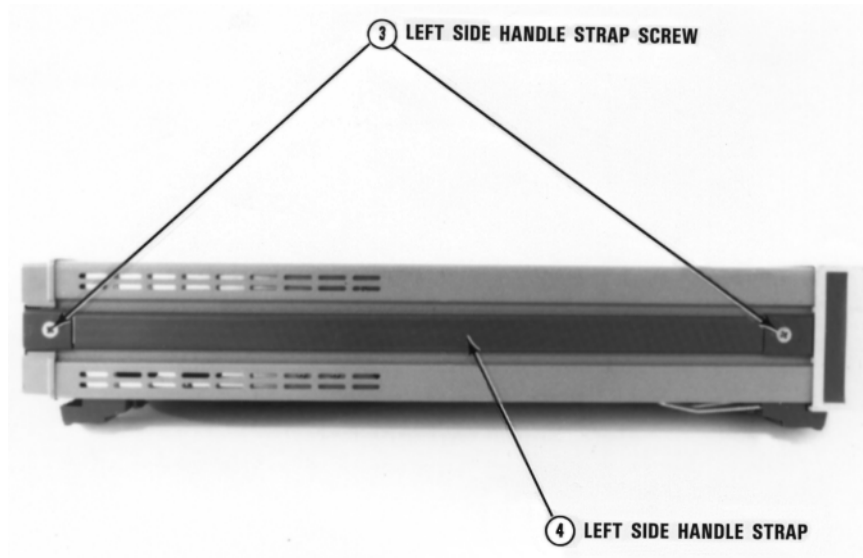

Figure 36. 3458 Left side
5. Refer to Figure 36. Turn the instrument so its left side faces you.
8. Refer to Figure 36. Reinstall the left side handle strap. Use the #1 pozidriv to reinstall side handle strap screws.